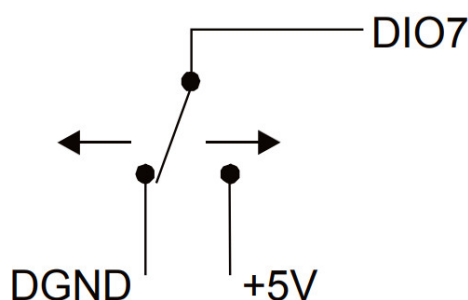

Figure 6. Schematic showing DIO7 detecting the state of a switch
When you configure the digital bits for input, you can use the digital I/O terminals to detect the state of any TTL-level input; refer to Figure 6. When the switch is set to the +5 V USER input, DIO7 reads TRUE (1). If you move the switch to DGND, DIO7 reads FALSE (0).